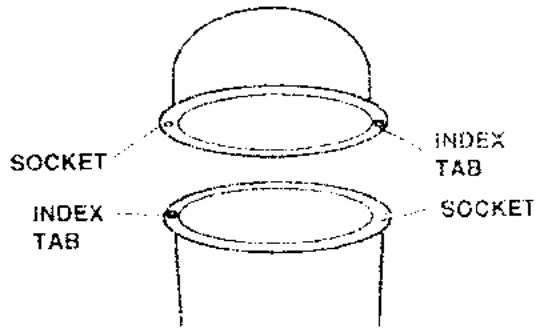

FIG. 3
Pour sand into the filter tank, distributing evenly. Stop filling about 1/2" from the top flange. Set the remainder of required sand aside for now. Clean off any sand that might be on the flange or in the O-Ring groove before installing the tank O-Ring (22) into O-Ring groove. Remove the bag and rubber band on the center pipe. Replace cover on tank aligning index tabs and sockets. Note: Index tabs must be aligned with sockets or tank cover will not seal properly (See Fig. 3)